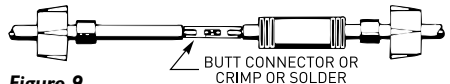

Figure 9
- Insert wire end into butt connector and crimp. **Match** cable and motor wire colors (see Figure 9).